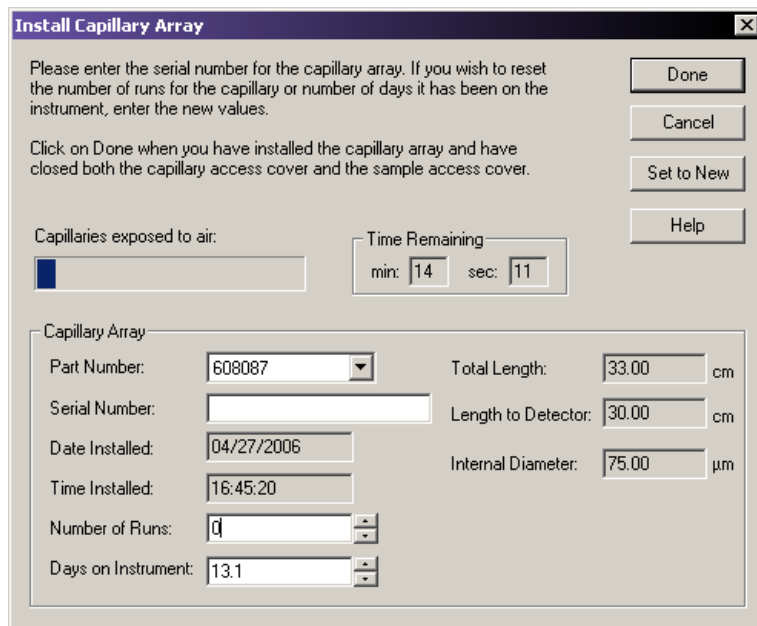

Figure 9.6 Install Capillary Array Dialog Box
- Click **Done** in the Install Capillary Array dialog box (Figure 9.6).